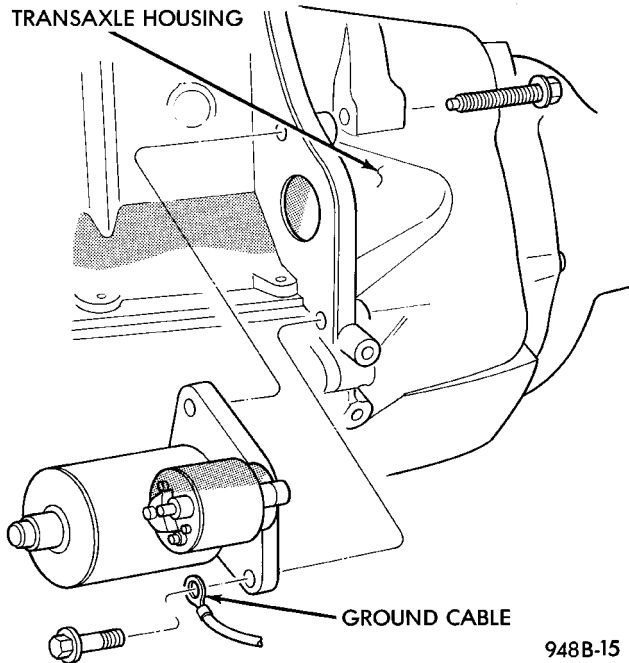

Fig. 27 Starter Bolts
- (16) Remove power hop damper and bracket.
- (17) Remove lower starter bolt (Fig. 27).